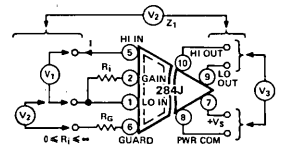

Figure 7. Model 284J Terminal Ratings
**Terminal Ratings:** CMV performance is given in both peak pulse and continuous ac or dc peak ratings. Pulse ratings are intended to support defibrillator and other transient voltages. Continuous ratings apply from dc up to the normal full power response frequencies. Figures 7 and 9 and Table I illustrate models 284J, 286J ratings between terminals.